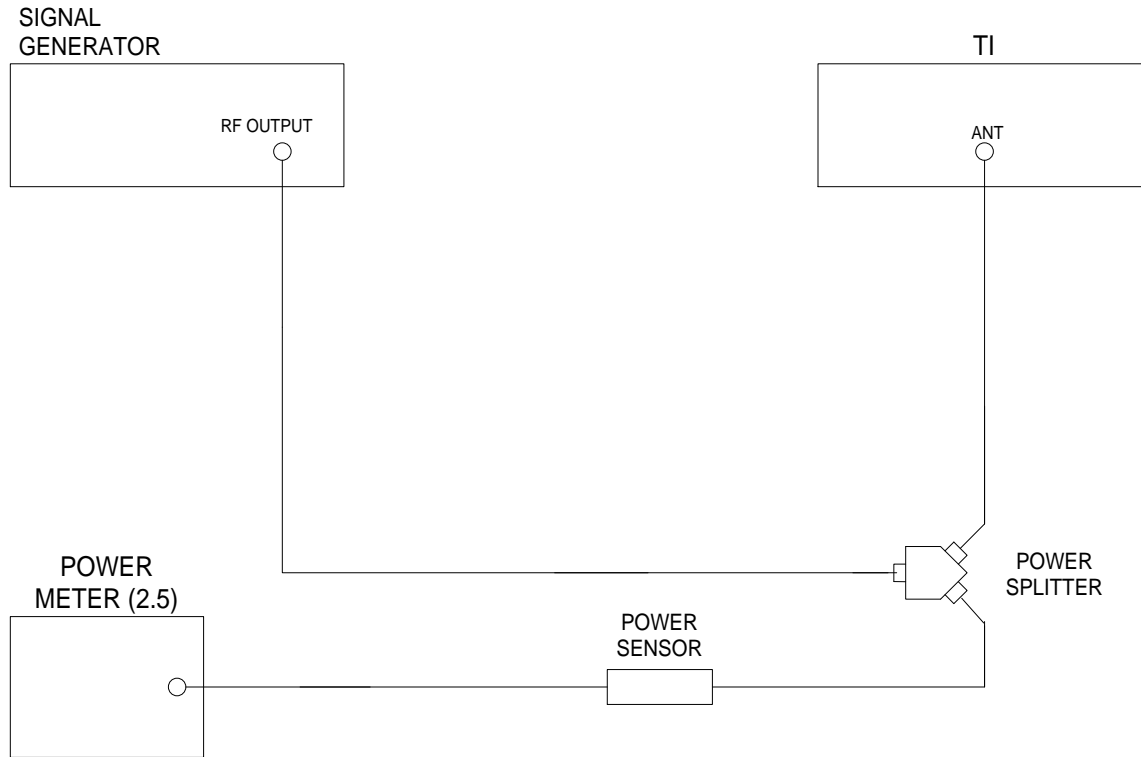

Figure 7.
4.19.2 Standardize Power Meter (2.5) and Power Sensor. Set the Power Meter (2.5) controls for a dBm measurement. Connect equipment as shown in Figure 7.